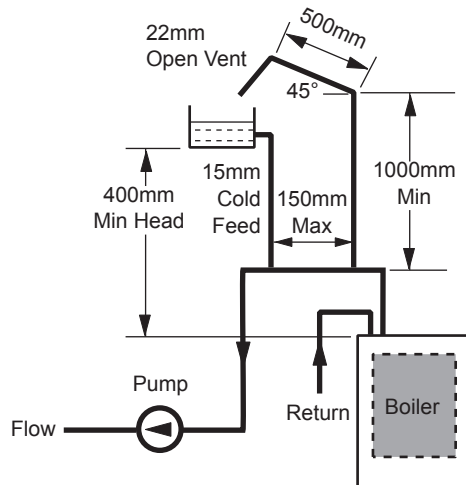

Fig. 4 Typical Low Head Installation
1. Using a close coupled arrangement the minimum head is as shown in the diagrams (Figs. 4, 5 & 6) subject to the following conditions: